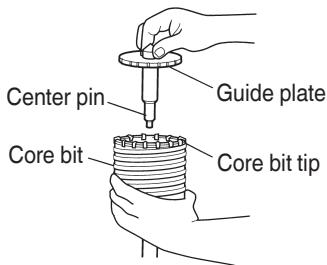

Fig. 18
- (3) Insert the center pin into the guide plate until it stops.
(4) Engage the guide plate with the core bit, and turn the guide plate to left or right so that it does not fall even if it faces downward. (Fig. 18)